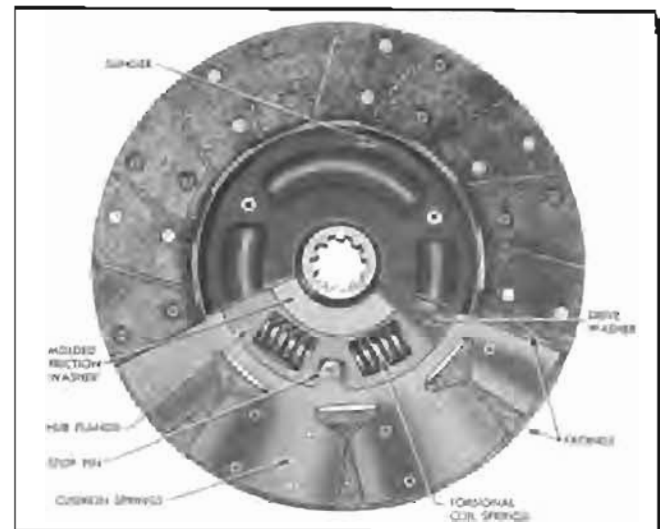

Figure 4-2—Driven Plate—Transmission Side
to provide springs between the plate facings and thereby cushion engagement of the clutch. A woven facing, grooved to give quick release, is riveted to each side of every segment of plate. When the clutch is fully released, the waved segments cause the facings to spread approximately .050" and the movement of pressure plate provides approximately .030" clearance to assure full release of driven plate. See figure 4-2.
springs whenever shock loads are transmitted through the clutch assembly. The coil springs are covered on transmission side of plate by a slinger which keeps oil or oil vapor from the driven plate facings. See figure 4-2.
4. **Clutch Driven Plate.** Inspect driven plate for condition of facings, loose rivets, broken or very loose torsional springs and flattened cushion springs. See figure 4-2.